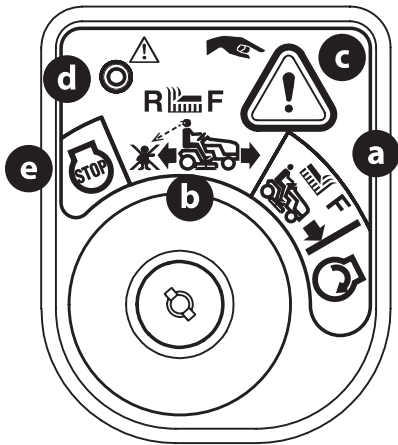

Figure 15
2. Turn the ignition key from the NORMAL MOWING MODE (a) position to the REVERSE CAUTION MODE (b) position of the ignition switch module (Figure 15).
3. Press and hold the REVERSE CAUTION MODE BUTTON (c) at the top, right corner of the ignition switch module for 3 seconds. The red indicator light (d) at the top, left corner of the ignition switch module will be ON while activated (Figure 15).
4. Once activated (indicator light ON), the tractor can be driven in reverse with the PTO (blade engage) in the ENGAGED (ON) position.
5. Always look down and behind before and while backing up slowly to make sure no children are around. After resuming forward motion, return key to the NORMAL MOWING MODE (a) position to return to normal mowing operation (Figure 15).
The REVERSE CAUTION MODE (b) will remain activated until (Figure 15):